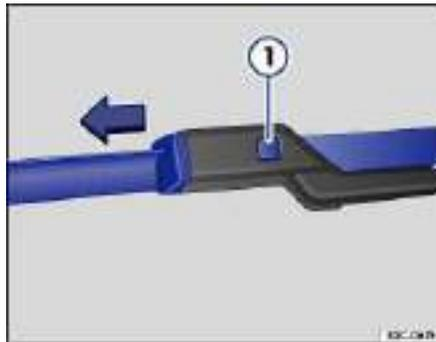

Fig. 159 Changing the windshield wiper blades.
- Press and hold the release button ⇒ fig. 159 \(1\).